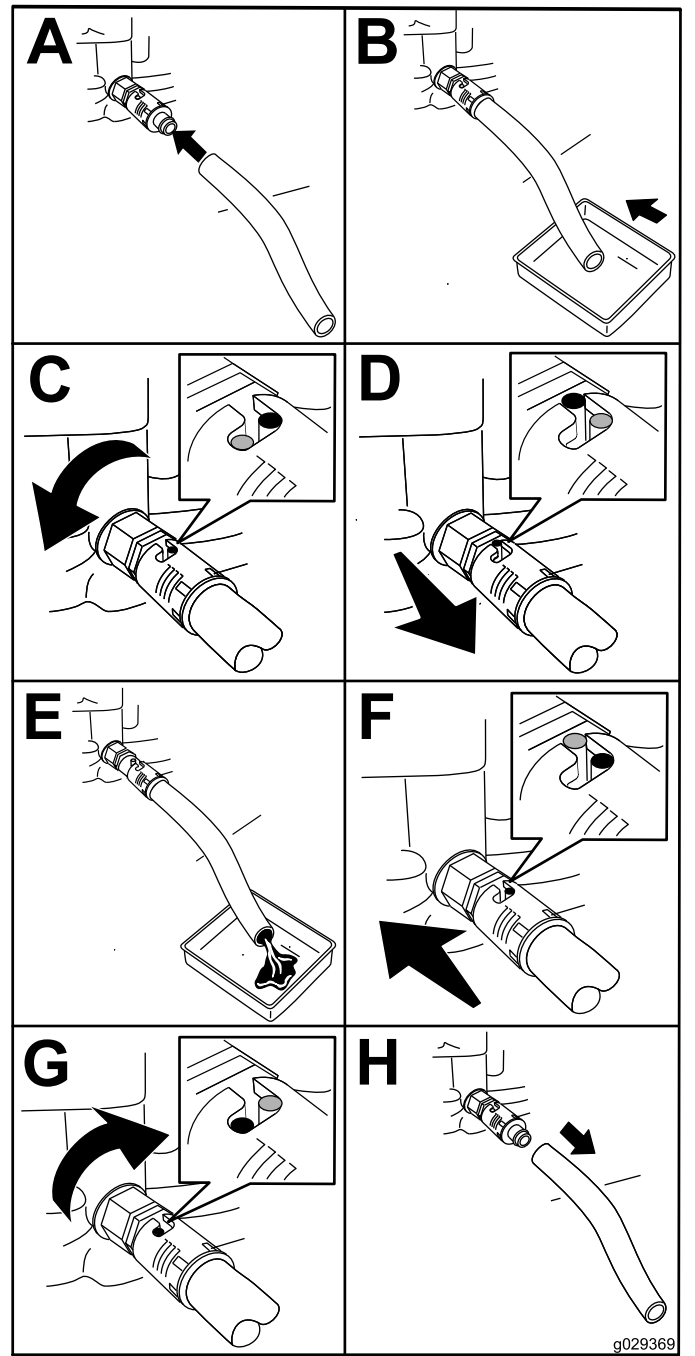

Figure 10
2. Install the drain hose onto the drain valve (Figure 10).
3. Place the other end of the hose (Figure 10) into a drain pan with a 1 L (1 US qt).
4. Turn the oil drain valve 1/4 turn counterclockwise and allow the engine oil to drain completely (Figure 10).
5. Turn the oil drain valve 1/4 turn clockwise to close the valve (Figure 10).
6. Remove the drain hose (Figure 10) and wipe any spilled oil.